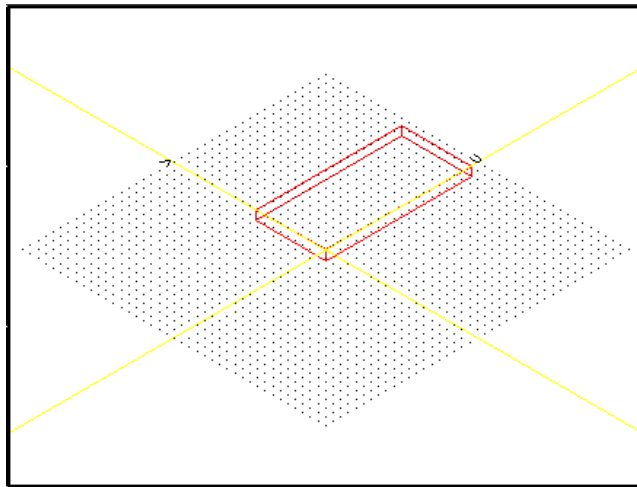

Figure 18 One-Half of the Dielectric
- 6 When the Box Template is filled out to your satisfaction, click **OK**. The dielectric is drawn, as in Figure 18.